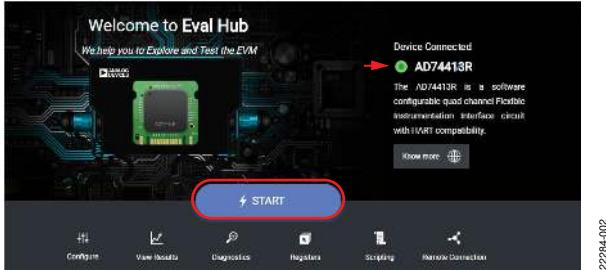

Figure 3. AD74413R Evaluation Software Start Page
5. The GUI displays a green indicator (indicated by the arrow in Figure 3) that confirms if the AD74413R is connected.
6. Click the **START** button to begin configuring the AD74413R (see Figure 3). The bottom of the GUI lists the tabs covered in the following sections.